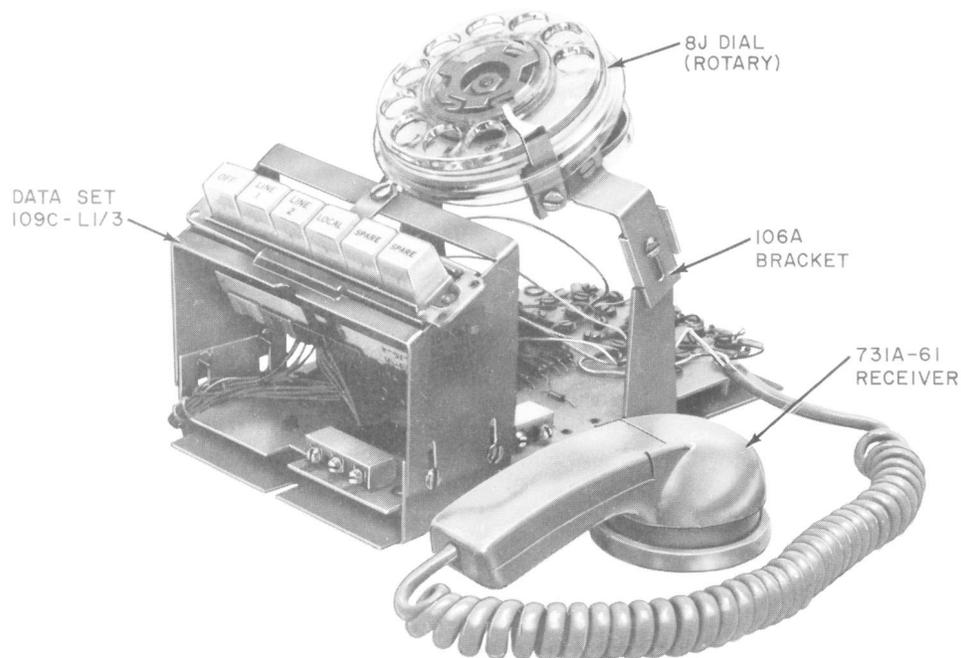

Fig. 2—Data Set 109C-L1/3
- (b) If data set is coded List 3 or 4, disconnect the leads of the listen-only handset (receiver) from the screw terminals at the rear of the data set. Remove the anchor from under the EU1 circuit board mounting screw at the right rear of the data set. See Fig. 2 and 3.